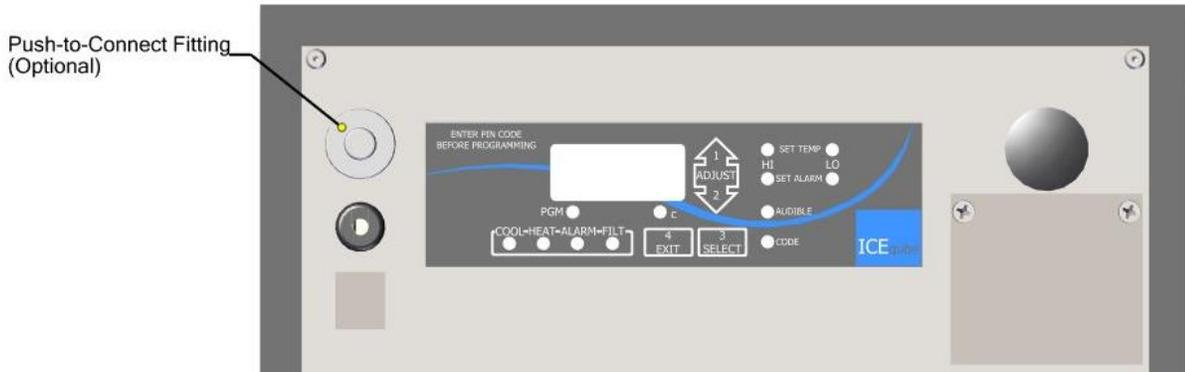

Figure 2: Push-to-Connect Fitting
3. After checking that all opening and bolt holes are in alignment, assemble and tighten the (2) 1/4"-20 nuts and (6) 1/4"-20 x 1" bolts supplied with you Ice Qube TMS by hand. Check to ensure gasket will properly seal the Ice Qube TMS to your enclosure.
5. The **OPTIONAL** purge connector is provided as a means to purge harmful gases out of the evaporator compartment. This 1/4" (6.35MM) O.D. push-to-connect fitting is for convenience only and is **NOT REQUIRED** as a method of protection. All components are non-ignition source components and **DO NOT** require purge protection from any source. (See Figure 2: Push-to-Connect Fitting pg:7)